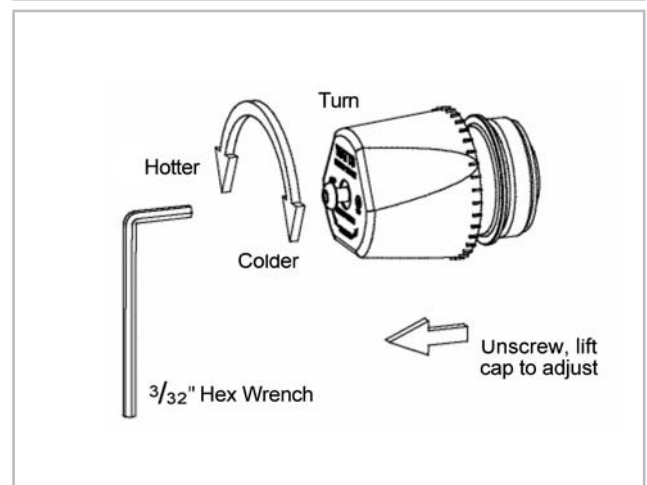

FIGURE 1 – TEMPERATURE ADJUSTMENT
3. To adjust the setting of the valve, loosen locking cap screw with hex wrench, see Figure 1. Cap must be lifted 1/4" to adjust temperature. To increase the temperature, turn counterclockwise. To decrease temperature turn clockwise.